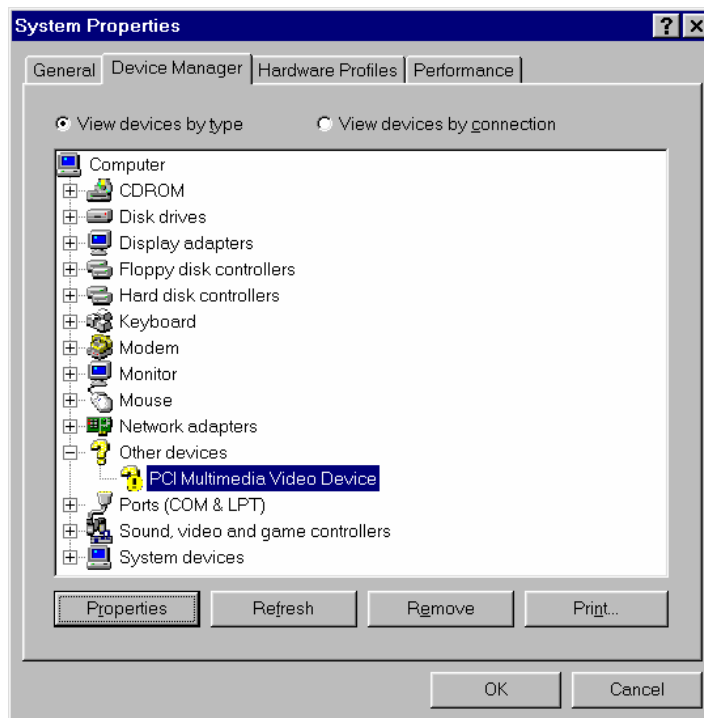

Figure 3. Locating an unidentified Telegeny device
- Click on the *Device Manager* tab to see a dialog similar to the one shown in Figure 3.
- Locate and double-click on the *Other devices* branch, shown with the yellow question mark (?). You should see a device labeled *PCI Multimedia Video Device* among the other devices in the group (see Figure 3). This is a generic name assigned to SP408 card by the system.